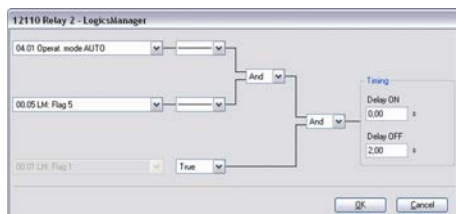

Fig. 193: LogicsManager function "Relay 2"
- ➔ Configure the LogicsManager function "Relay 2" as shown in (Fig. 193).